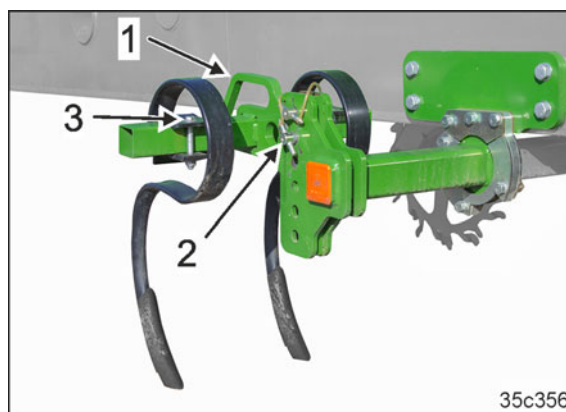

Fig. 185
1. Tighten and lock the screw (Fig. 185/1) after adjusting the wheel mark eradicator.
1. Hold the wheel mark eradicator by the handle (Fig. 185/1).
2. Remove the pins (Fig. 185/2).